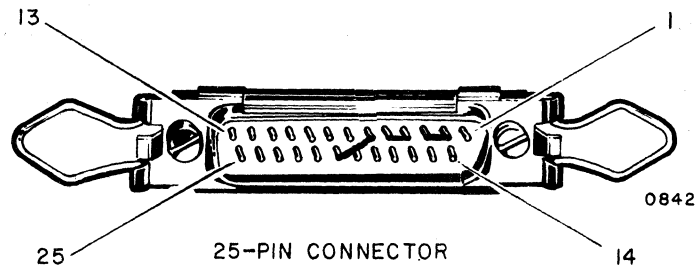

Figure 3-9. Data Set Connector
- b) Using three short lengths of paper clips, carefully connect together the following pin contacts in the data set connector, figure 3-9: